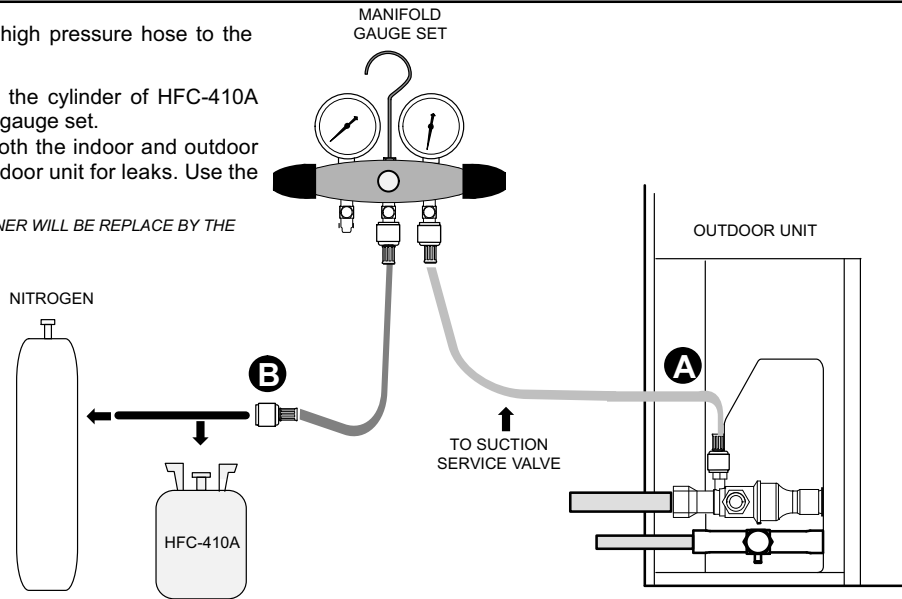

FIGURE 16
- 1.. Connect an HFC-410A manifold gauge set as illustrated in figure 16.